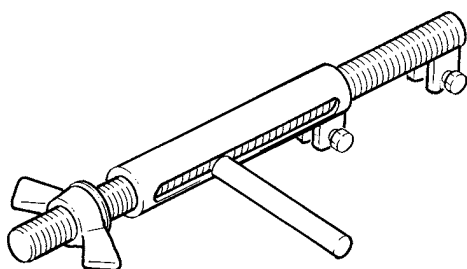

fig. 180
- During wire rope replacement, to prevent the rope spring projecting, it is **COMPULSORY** to use the special "Spring tightening" device (fig. 180), which is available from the DONATI SOLLEVAMENTI S.r.l. Service and Assistant Centres.
10. Disassemble the wire-clamping spring -19- using the special spring-tightening device -T- (fig. 180) and pliers to remove the clip -20- (fig. 188).
9. Take off the wire-clamping spring -19- using the special spring-tightening device -T- (fig. 180) and pliers to remove the clip -20- (fig. 188).